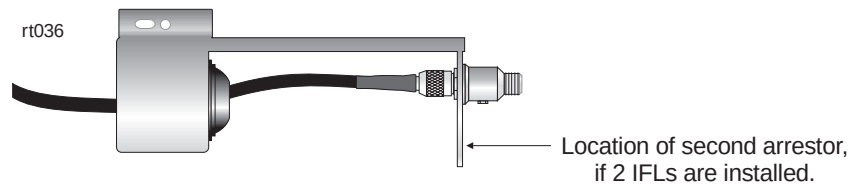

Figure 4-8 Connecting the IFL cable to the arrestor
4. Connect the cable to the RF arrester, as shown in figure 4-8.